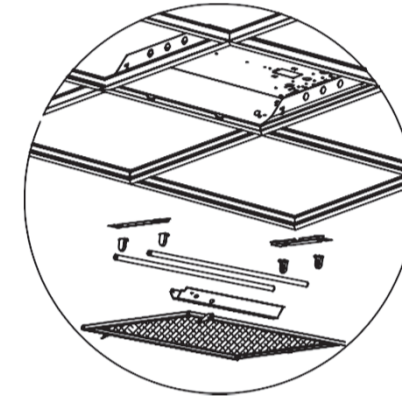

Figure 2
2. Install end brackets to each end of the fixture by gently lifting existing fixture and placing end brackets between the fixture and T-grid. If desired, secure the end brackets to the fixture using the provided #8x1/2" self-drilling screws.(Fig. 2)